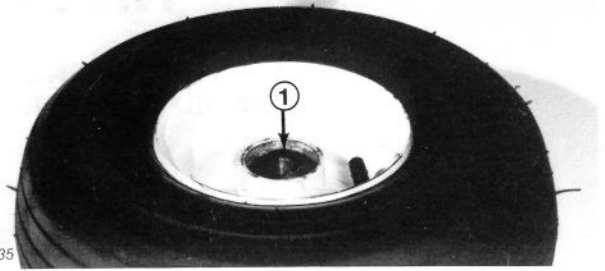

Figure 31
3. Remove bearings from wheel hub (Fig. 31). Clean the bearings in solvent and assure they are in good operating condition. Also, clean the inside of the wheel hub.